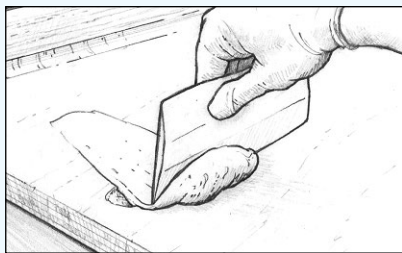

Figure 22 Apply fairing compound to fill all voids and smooth to shape.
4. Trowel the thickened epoxy mix onto the wetted surface with a plastic spreader, working it into all voids and depressions. Smooth the epoxy to the desired shape, leaving the mix slightly higher than the surrounding area (*Figure 22*). Remove any excess thickened epoxy before it cures. If filling voids over 12mm deep, apply the fairing mix in several applications allowing each application to partially cure before proceeding and/or use 206 Slow Hardener[®] or 209 Extra Slow Hardener[™], depending on temperature.